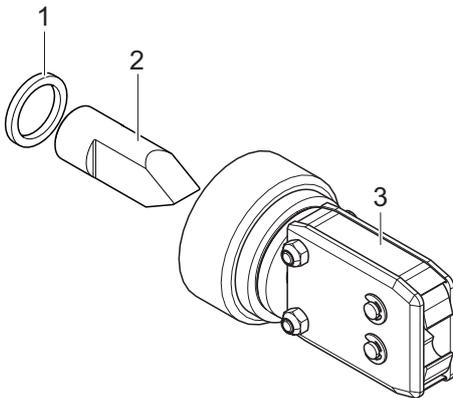

Fig. 30: Pincer head set
- Spacer ring (*Fig. 30/1*)
- Wedge (*Fig. 30/2*)
- Pincer head (*Fig. 30/3*)